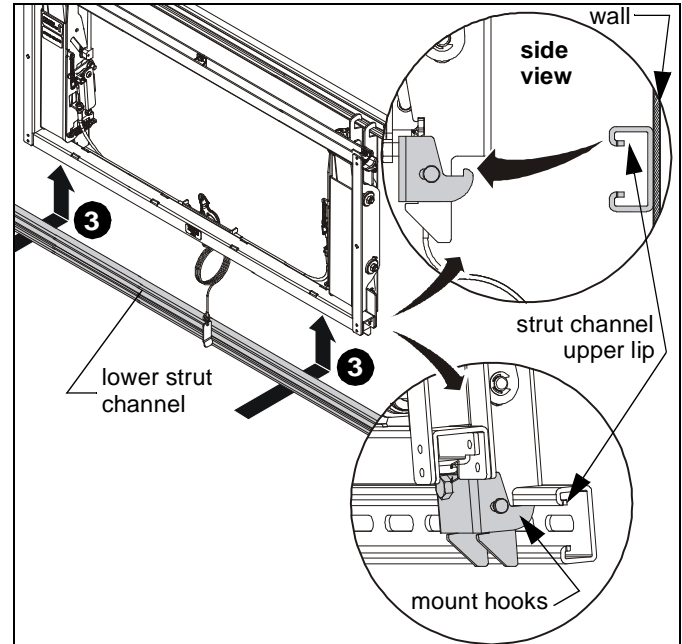

Figure 8
3. **LVXSXU only:** Add lower strut channel to bottom of all mounts in row by lifting strut channel up from below mounts and setting upper lip of strut channel onto mounts' latching hooks. (See Figure 8)
4. Tighten two hex head fasteners at bottom of each mount. (See Figure 8)